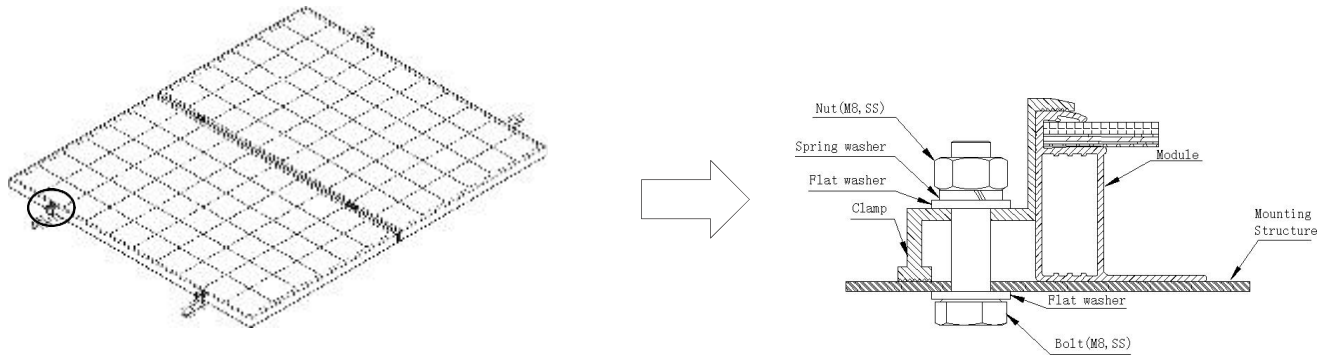

Figure 6 Mounting clamps
- Clamping system: use proper clamp, and fix the module with the installation support, as shown in Fig. 6.